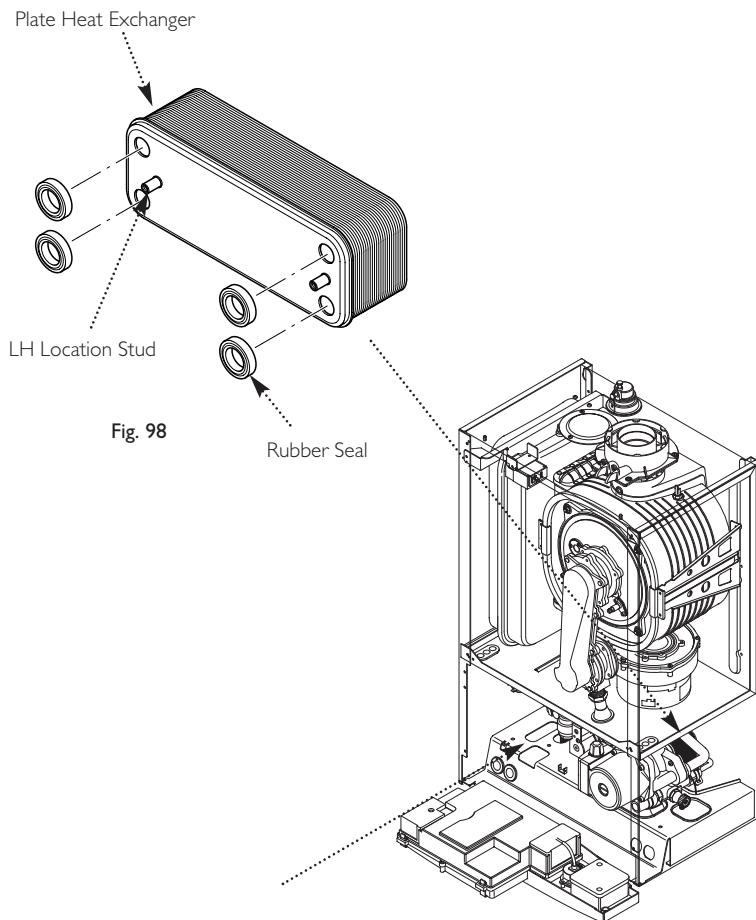

Fig. 98
14.18 Plate Heat Exchanger (Fig. 98)